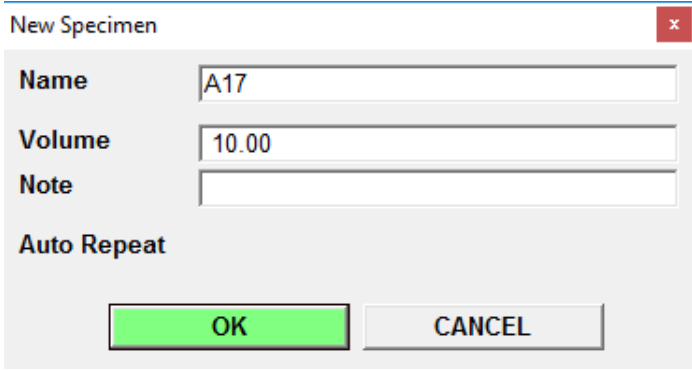

Figure 23: An example of the **New Specimen** window for the Field Dependence Mode.
4. Hit  ( or ) to launch the **New Specimen** window (Figure 23).
3. Hit  ( or ) to launch the **New Curve** window (Figure 23).